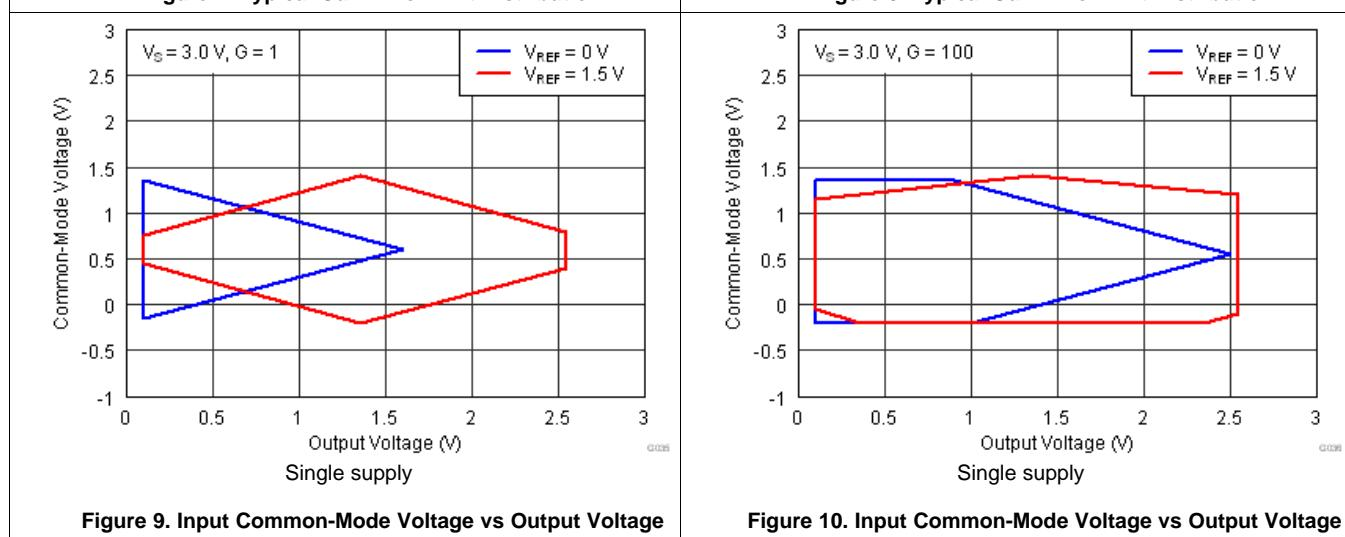

Figure 9. Input Common-Mode Voltage vs Output Voltage
(1) Total offset, referred-to-input (RTI): $V_{\text{OS}} = (V_{\text{OSI}}) + (V_{\text{OSO}} / G)$.
(2) Input voltage range of the INA826 input stage. The input range depends on the common-mode voltage, differential voltage, gain, and reference voltage. See *Typical Characteristic* curves Figure 9 through Figure 16 and Figure 41 through Figure 44 for more information.
The linear input voltage range of the INA826 input circuitry extends from the negative supply voltage to 1 V below the positive supply and maintains 84-dB (minimum) common-mode rejection throughout this range. The common-mode range for most common operating conditions is described in the input common-mode voltage versus output voltage Typical Characteristics curves (Figure 9 through Figure 15) and the offset voltage versus common-mode voltage curves (Figure 41 through Figure 43). The INA826 operates over a wide range of power supplies and V_{REF} configurations, thus providing a comprehensive guide to common-mode range limits for all possible conditions is impractical.